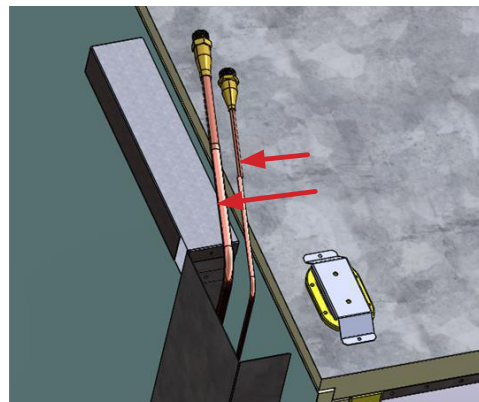

Fig. 15 Push connections towards case rear
5. Gently push the connections to the rear of the case (Fig. 15) and bend them downward into the rear piping panel (Fig. 16). The piping connections can rest upon the metal cover to the left of the piping cover.